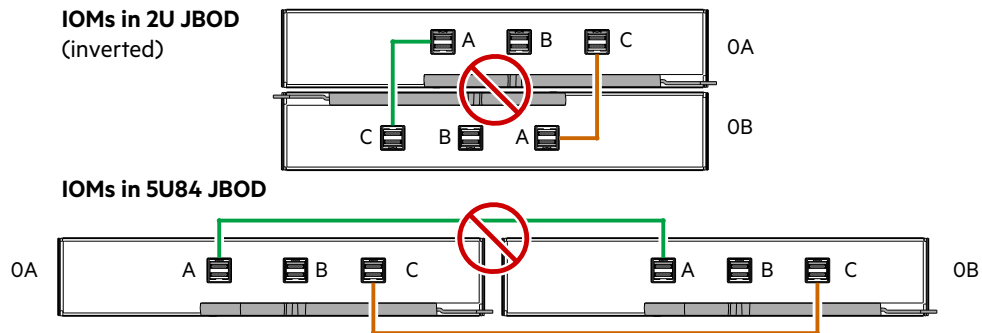

Figure 115 SAJ cabling: invalid configuration—IOM looped to partner
- Figure 115 \(page 144\) shows an IOM incorrectly looped to its partner